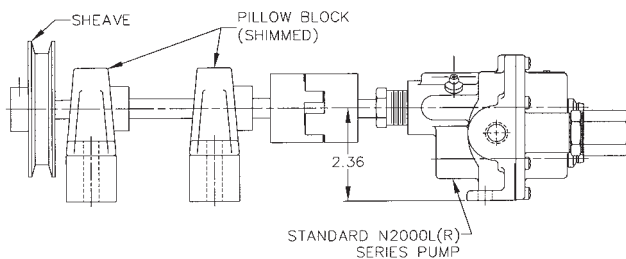

FIGURE 2
- 1) Use the standard pump arrangement by adding an independently supported jackshaft (see figure 2 below) or use kit 2P